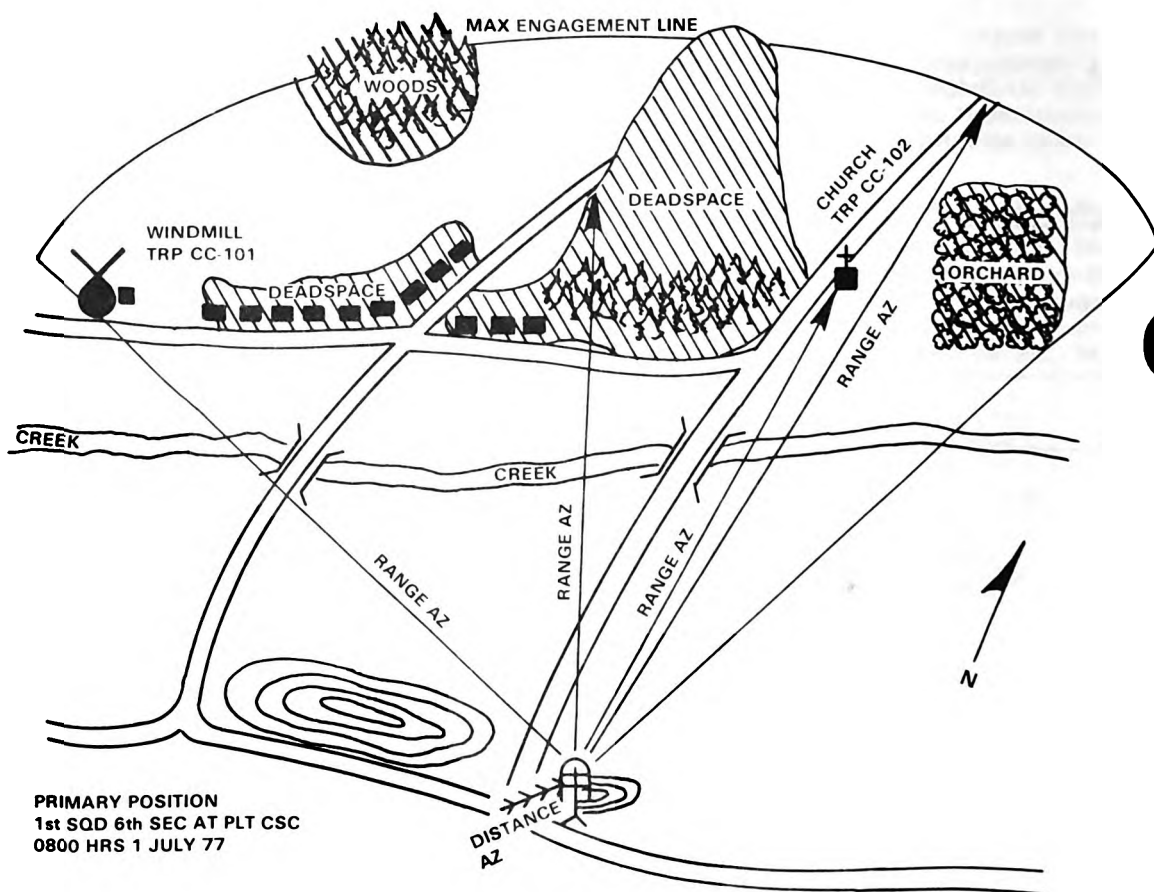

Figure 9.
(5) Orient the range card with the terrain and determine the direction of magnetic north with a compass. Draw a magnetic north arrow using the straight edge of the compass (figure 9).
(6) In a corner of your range card, place the following **marginal data** which is used by leaders to identify range cards:
(a) Unit description -- Never indicate your unit higher than your company. If your range card gets lost, the enemy will not be able to learn important military information if they find your range card (figure 9).
(b) Time and date of preparation (figure 9).
(c) Type position (primary, alternate, supplementary) (figure 9).